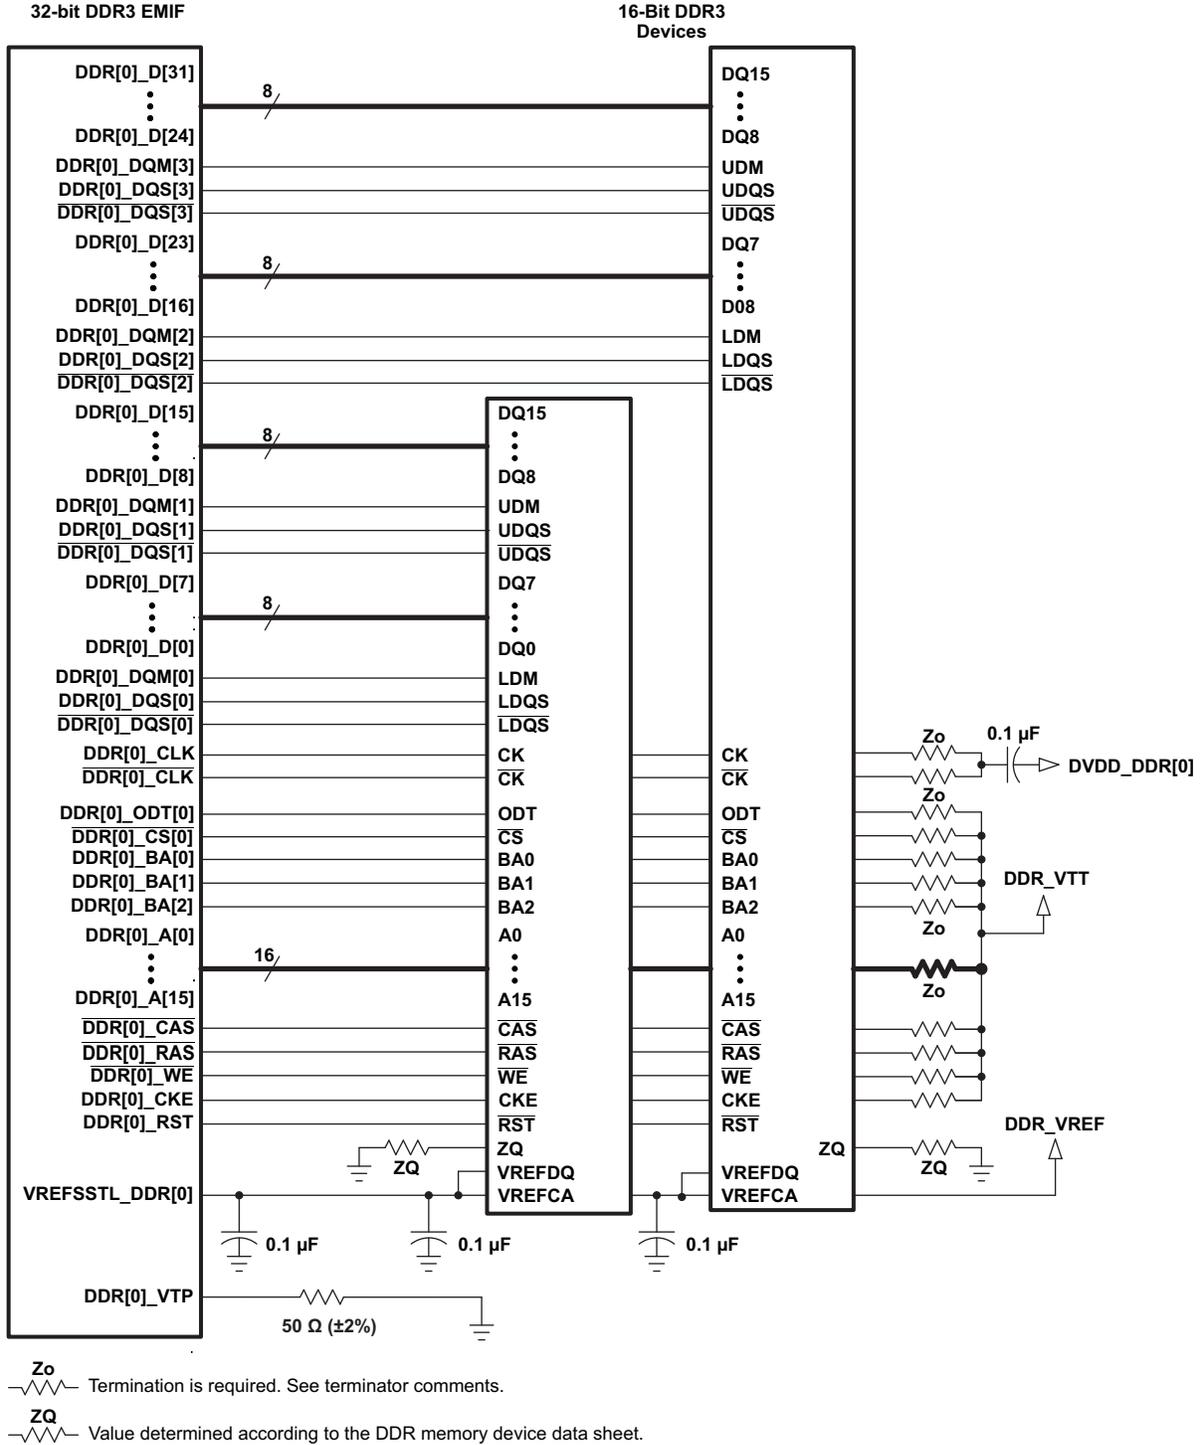
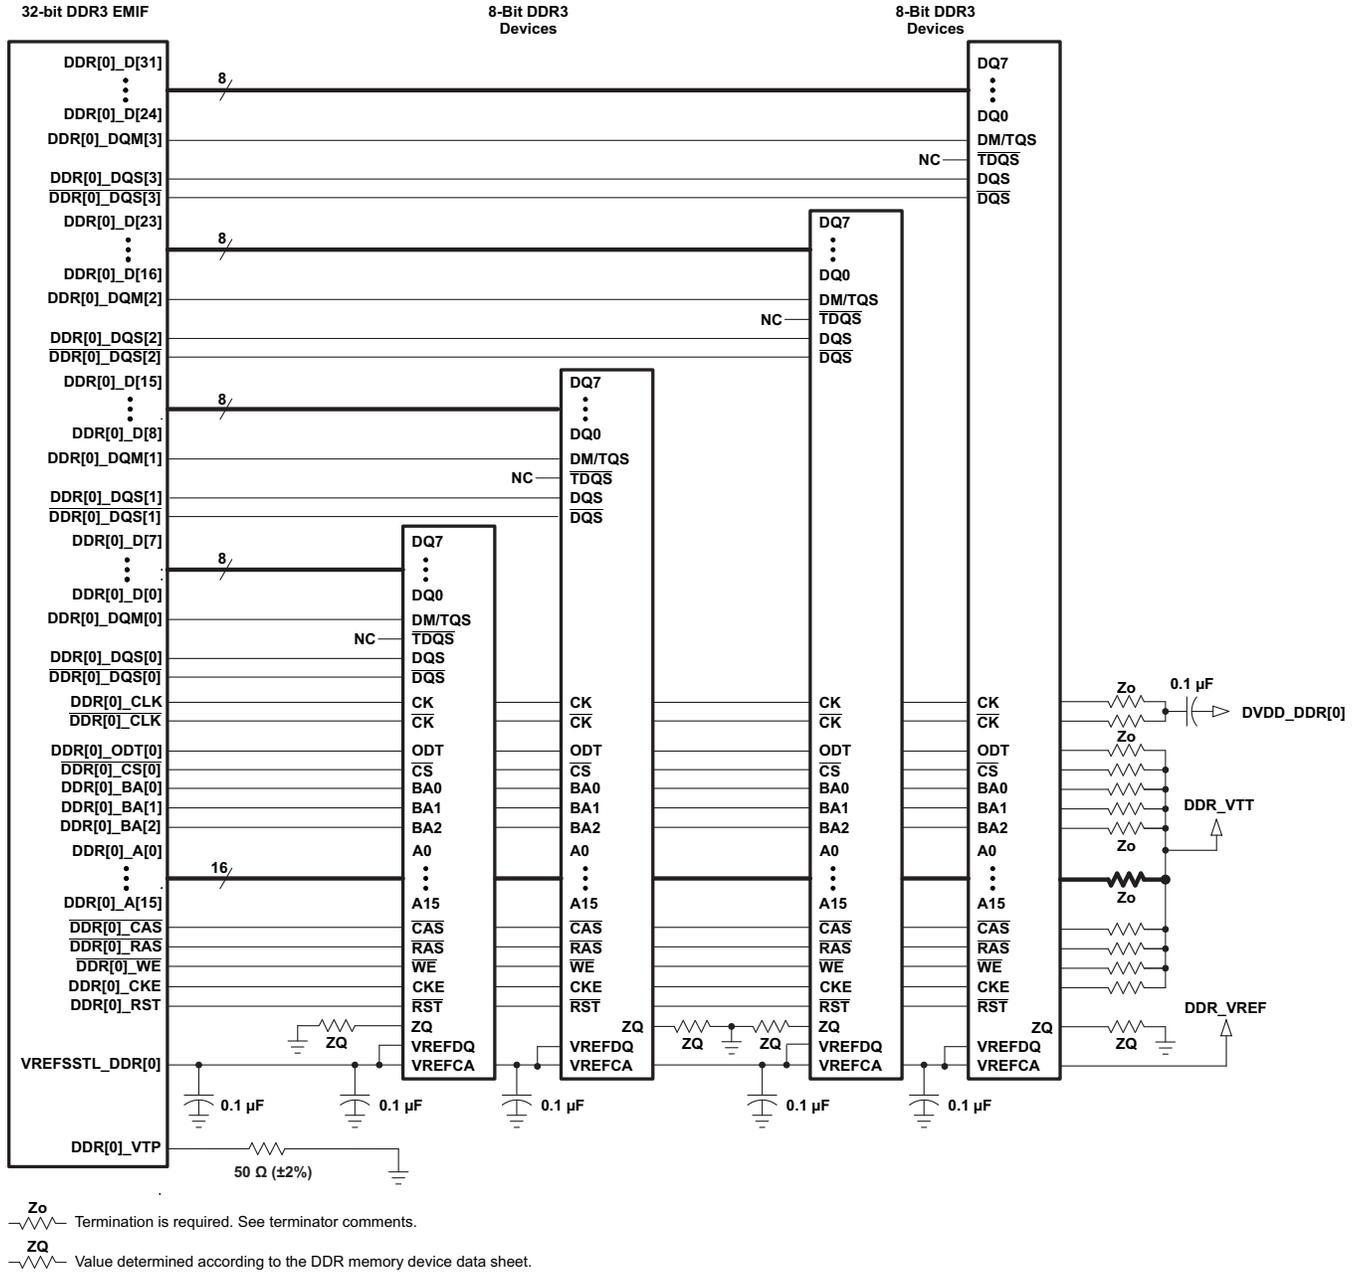

Figure 8-56. 32-Bit, One-Bank DDR3 Interface Schematic Using Two 16-Bit DDR3 Devices
Figure 8-57. 32-Bit, One-Bank DDR3 Interface Schematic Using Four 8-Bit DDR3 Devices
The DDR3 interface schematic varies, depending upon the width of the DDR3 devices used and the width of the bus used (16 or 32 bits). General connectivity is straightforward and very similar. 16-bit DDR devices look like two 8-bit devices. Figure 8-56 and Figure 8-57 show the schematic connections for 32-bit interfaces using x16 devices.
Note that the 16-bit wide interface schematic is practically identical to the 32-bit interface (see Figure 8-56 and Figure 8-57); only the high-word DDR memories are removed and the unused DQS inputs are tied off. The processor `DDR[0]_DQS[2]` and `DDR[0]_DQS[3]` pins should be pulled to the DDR supply via 1-k $\Omega$  resistors. Similarly, the `DDR[0]_DQS[2]` and `DDR[0]_DQS[3]` pins should be pulled to ground via 1-k $\Omega$  resistors.
(1) DDR3 speed grade depends on desired clock rate. Data rate is 2x the clock rate. For DDR3-800, the clock rate is 400 MHz.
(2) DDR3 devices with higher speed grades are supported; however, max clock rate will still be limited to 533 MHz as stated in Table 8-59 *Switching Characteristics Over Recommended Operating Conditions for DDR3 Memory Controller*.
(3) For valid DDR3 device configurations and device counts, see Section 8.13.3.3, Figure 8-56, and Figure 8-57.